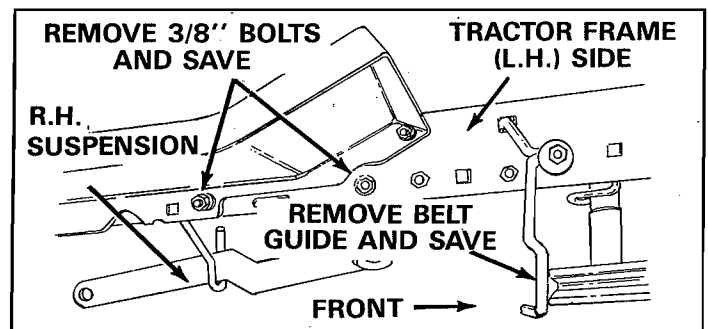

FIGURE 5
- B. The mower suspension arms (R.H. and L.H.) must be removed to allow assembly of snow blade. Also remove and save the 3/8" bolts and lock nuts from each side of tractor frame as shown in figure 5. Remove the belt guide and hardware from right hand side of tractor frame. Save for use when re-attaching the deck next season. See figure 5.